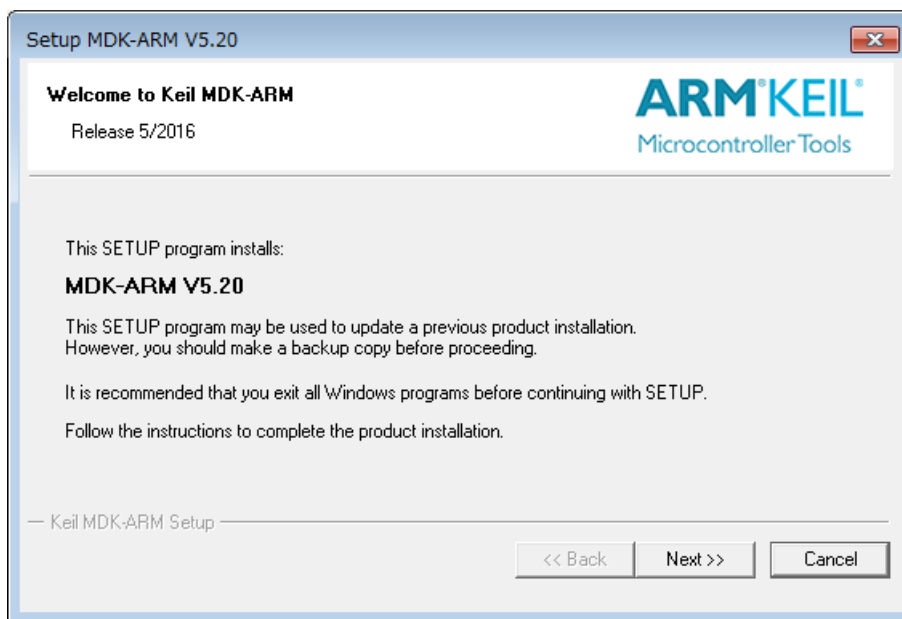

Figure 3.1.2.1 Installation Screen of MDK-ARM
- (1) Download the installer of MDK-ARM from the ARM web site.
- (2) Finish all the application on the Windows.
- (3) Double click the installer(exe file) to launch it. Then the installation wizard shown below will be displayed. (Figure 3.1.2.1)